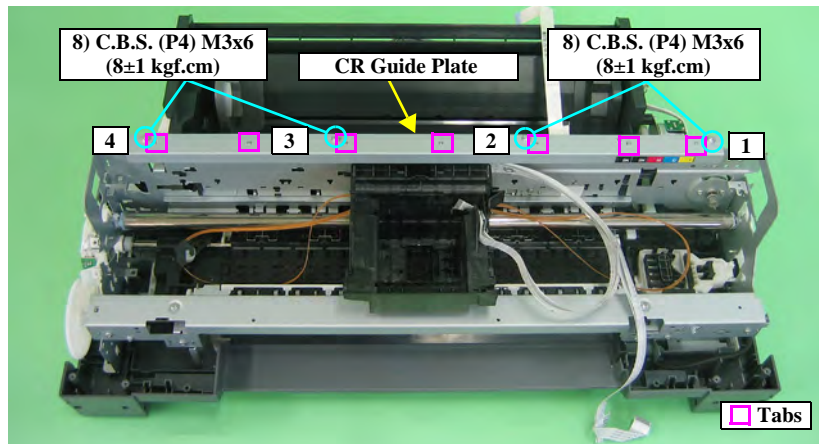

Figure 4-66. Removing the CR Guide Plate
- Align the positioning holes on the CR Guide Plate with the seven tabs on the Main Frame. See Figure 4-66 (p.91)
- Tighten the screws in the order shown in Figure 4-66.